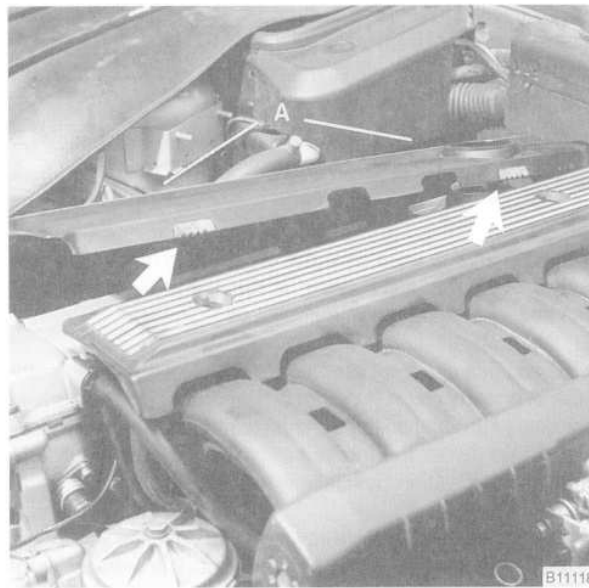

Fig. 4. Remove top engine cover by prying out plugs and removing nuts (A). Note rubber insulators during cover removal (arrows).
8. Remove the top plastic engine covers. See Fig. 4. Disconnect the ignition coil harness connectors from the coils. Remove the ignition coils.